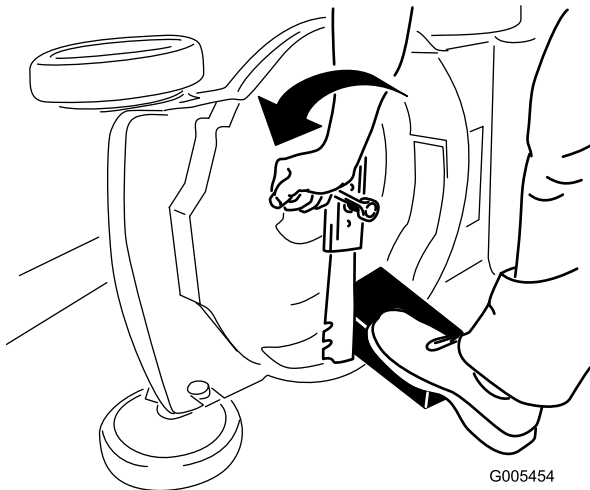

Figure 25
3. Use a block of wood (not included) to hold the blade steady (Figure 25).
4. Remove the blade, saving all mounting hardware (Figure 25).